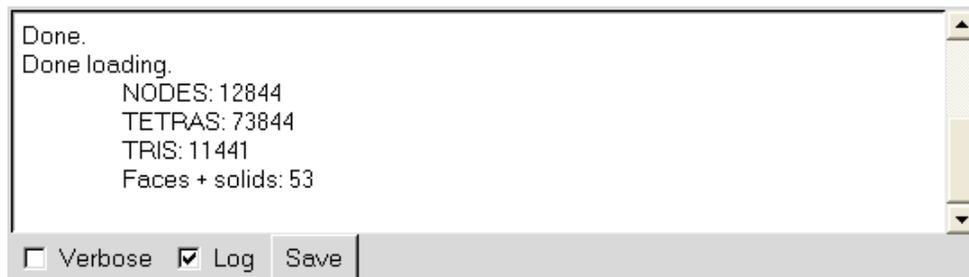

Figure 2.1.30: Sample Message Window
The **Message** window (Figure 2.1.30) is located below the graphics window. **Airpak** communicates with you through its **Message** window. It is used to display informative messages, such as those relating to meshing or solution procedures, as well as error messages and instructions. **Airpak** saves all information that is written to the **Message** window in memory. You can review this information at any time by using the scroll bar on the right-hand side of the **Message** window. To instruct **Airpak** to display more detailed messages related to the meshing and solution procedures, select the **Verbose** option in the **Message** window.
1. Select the **Log** option in the **Message** window (Figure 2.1.30). A **File selection** dialog box appears. The default name (`messages.log`) for the log file will appear in the **File name** field at the bottom of the **File selection** dialog box.